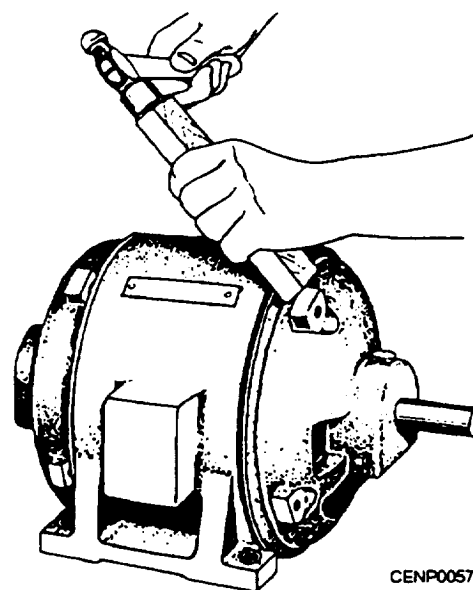

Figure 7-57.—Separating motor frame from end bells.
4. Part the end bells from the frame, as shown in figure 7-57.